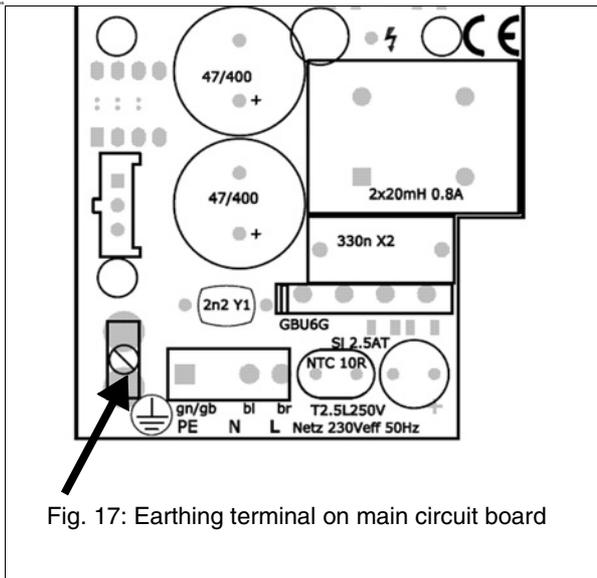

Fig. 17: Earthing terminal on main circuit board
- Connect the earthing terminal on the main circuit board of the PBX via the connecting cable to the potential compensation bar of the house installation or the protective earth conductor. See Fig. 17.